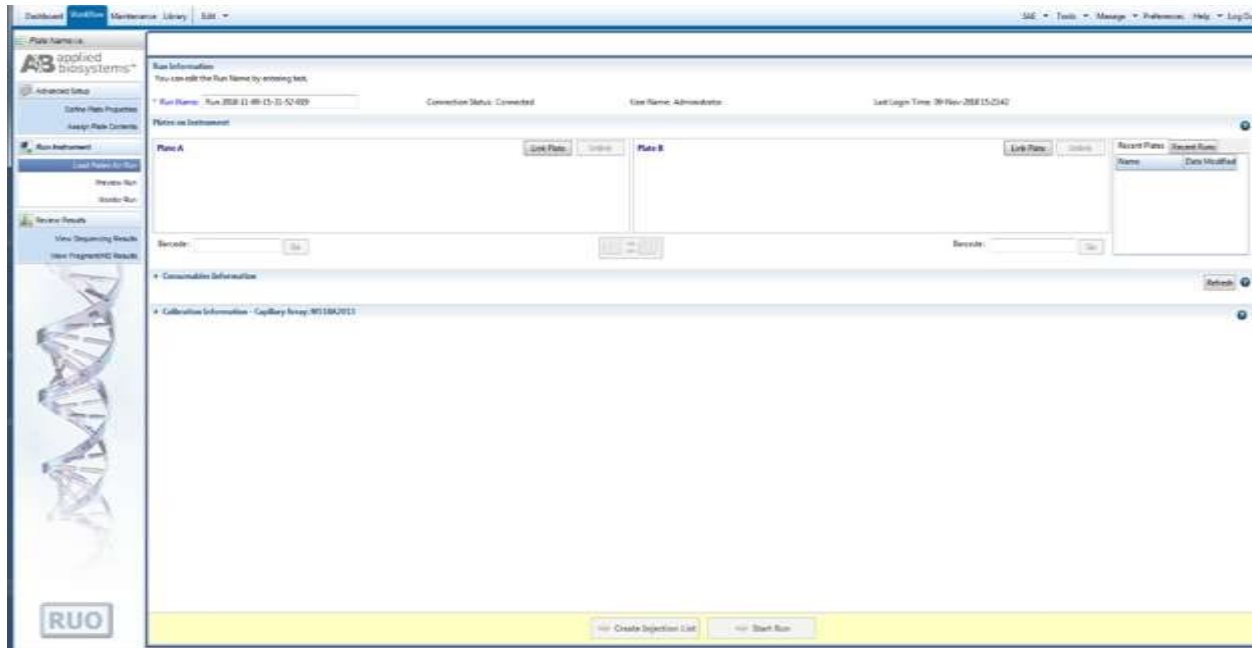

Figure 13. Screenshot for the “Run Information” window on Applied Biosystems 3500 Data Collection software
- In the *Run Information* window, give a *Run* name (Figure 13). Select “*Start Run*” after loading the plate.